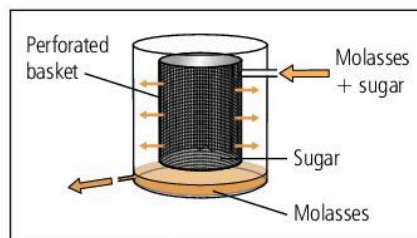

Figure 2.6.2 Simplified diagram to show the idea behind a basket centrifuge
- 1 A basket centrifuge (Figure 2.6.2) is used to separate the molasses from the sugar crystals. The mixture is placed in the perforated basket (a basket with tiny holes in it). This is spun round at a high speed.